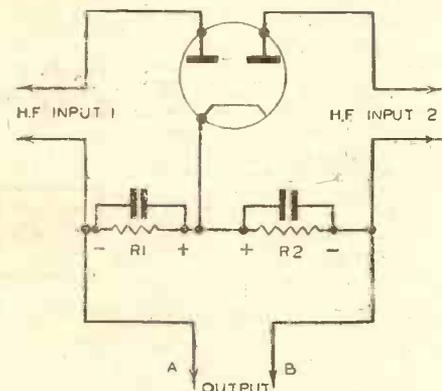

Fig. 6.—Here the two diodes of a double-diode valve are used separately on two H.F. inputs.
In Fig. 6 the two diodes D1 and D2, forming the two halves of a double diode valve, are shown as separately operating on two independent H.F. inputs. In the diagram the + and - marks indicate the polarities of the rectified voltages produced across the two load resistances, R1 and R2, by D1 and D2, respectively. The two diodes have a common cathode, and it is easy to appreciate from Fig. 6 that if output leads (A and B) are taken from the diode anode ends of R1 and R2, respectively, that the resultant output voltage will always be the difference between the voltage across R1, and the voltage across R2; moreover, the polarity of the resultant voltage between A and B will depend upon which of the two component voltages is the greater.
Assuming similar diode characteristics and equal load resistances it should be obvious that an arrangement such as that of Fig. 6 provides discrimination between the two H.F. inputs in so far as the value and polarity of a "control" voltage taken off AB is concerned. If the two H.F. inputs are equal, the voltages across R1 and R2, respectively, will be equal, and the voltage between A and B will be zero. If H.F. input (1) exceeds H.F. input (2) a voltage will be set up between A and B which will be the greater, the greater the difference between the two H.F. inputs, and B will be positive to A. If, however, H.F. input (2) exceeds H.F. input (1), then A will be positive to B.